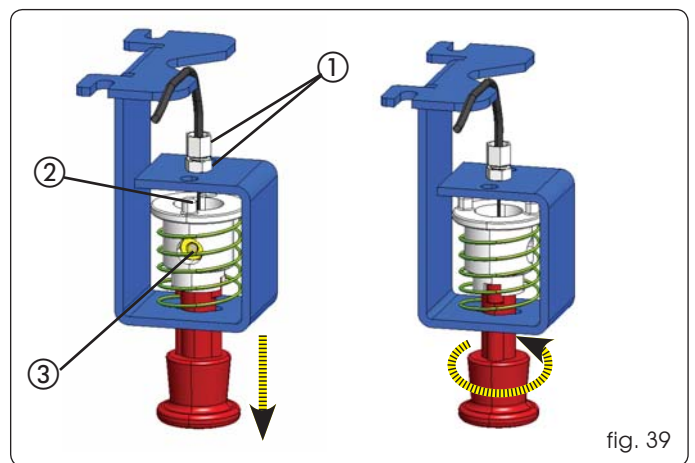

fig. 39
- Screw the adjuster, with the relevant lock nut, as shown in Fig. 39 ref. ①.
- Insert the steel cable inside the adjuster; route it inside the release device (Fig. 39 ref.②).
- Secure the steel cable with the clamp and tighten the screw (fig. 39 ref.③).
- Take the black sheath of the cable in contact with the adjuster (fig. 39 ref.①).
- Lock the knob by pulling and rotating it through 90° making sure it does not return to its original position (fig. 39).
- If any adjustments are necessary, use the adjuster of the knob bracket (Fig. 39 ref. ①).